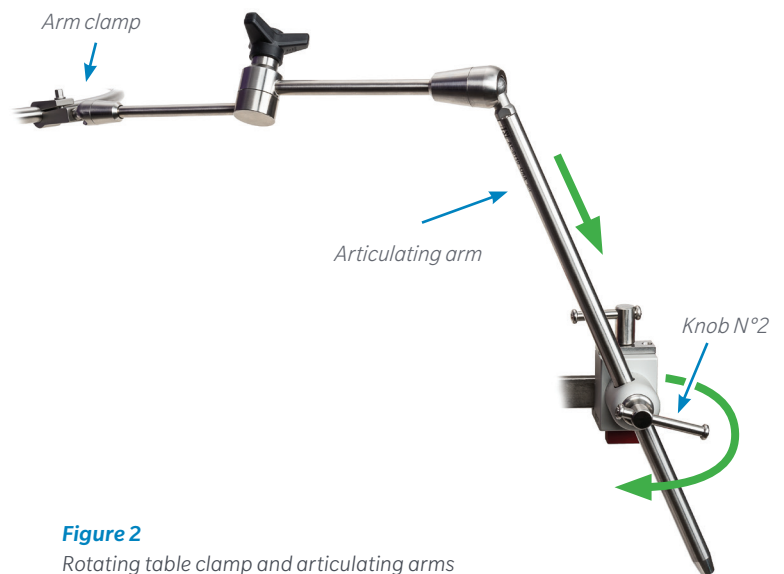

Figure 2
- Adjust the height of the articulating arm and lock its position by tightening knob N°2 of the rotating table clamp (Figure 2). Take care to position the articulating arm as low as possible to ensure it will not impede the surgeon's movements.